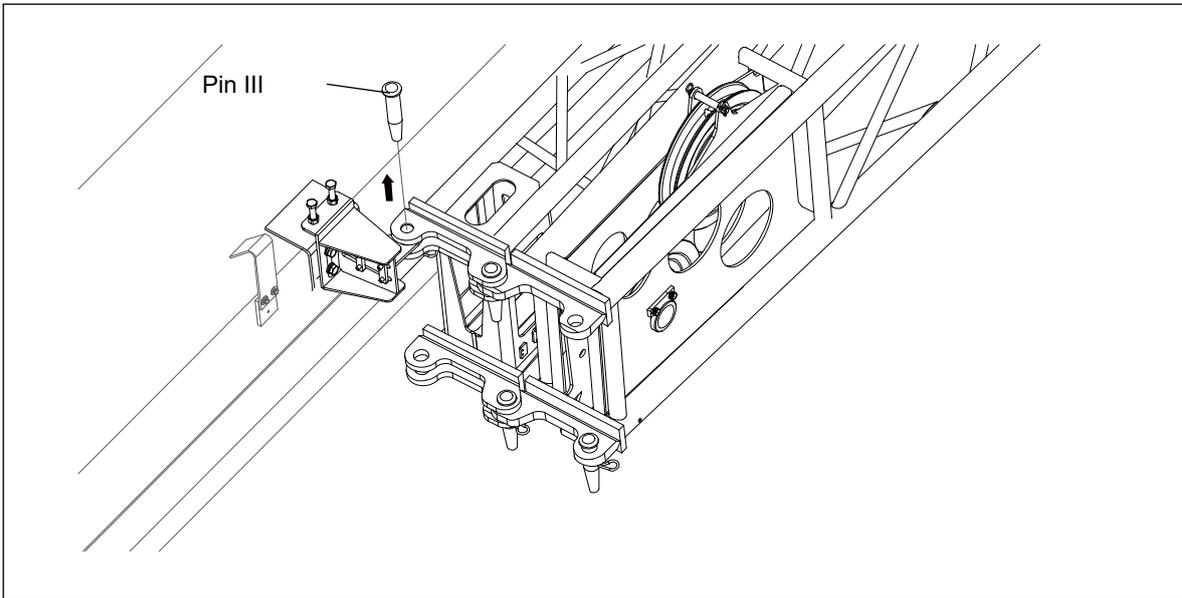

Figure 5-5 Pin III removal
- d) Remove the pin III. See Figure 5-5.